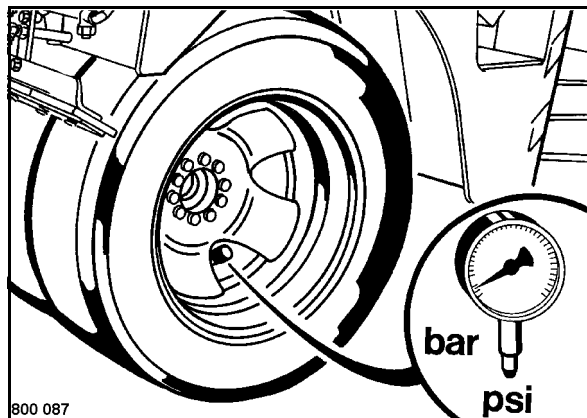

Fig. 87
- Check the tire pressure with a pressure gauge on the tire inflation valve (Fig. 87).